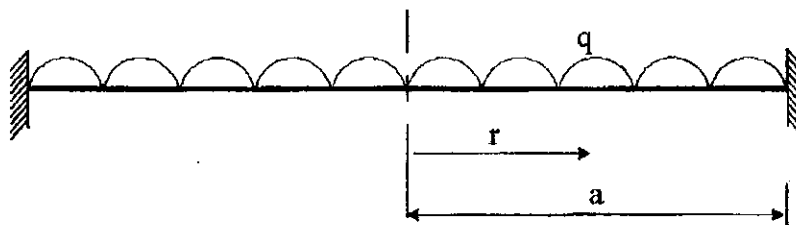

Figure Q7
- (ii) A Circular plate of radius "a" carries a uniformly distributed load "q". The edge at "r = a", is fixed supported as shown in Figure Q7.